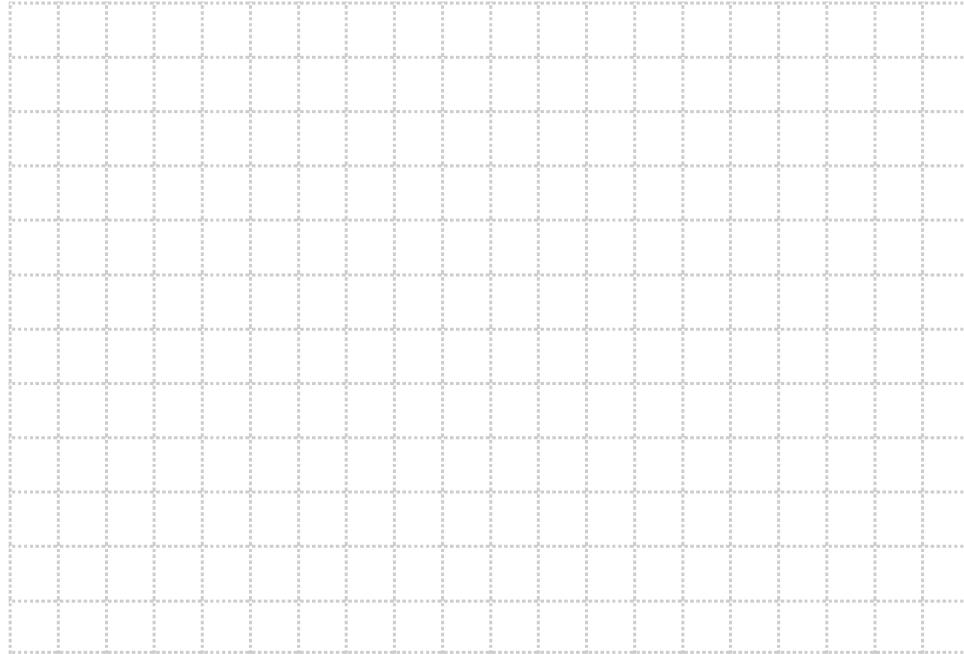

Figure 1-11. Head versus flow rate.
17. Plot the head versus flow rate curves in Figure 1-11.